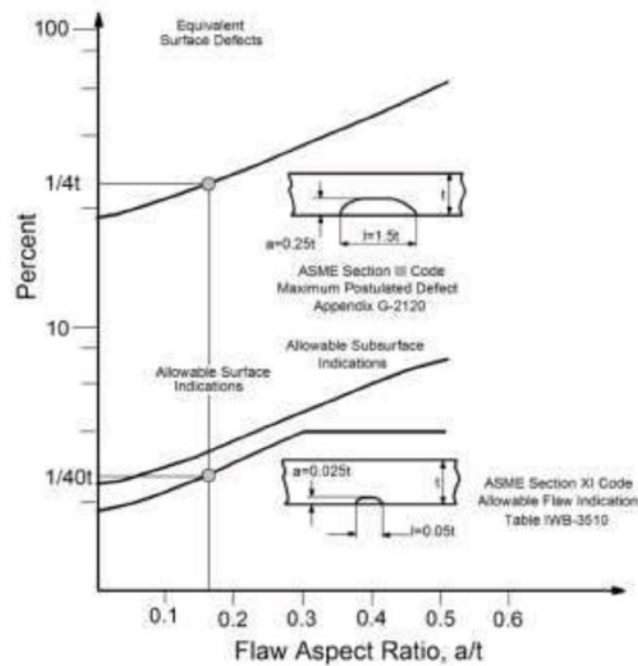

Figure 1. Maximum postulated flaw (Section III) and allowable surface flaw (Section XI) [6]
the development of fatigue and fracture mechanics theories. Risk assessment, condition monitoring and life management as new disciplines were developed (4). The “safe life” design was substituted by the concept of “damage tolerance” (5). Figure 1 shows an example of the application of damage tolerance concept in nuclear power plant construction and operation. In accordance with Figure 1, the recommendation of the ASME Boiler and Pressure Vessel Code (BPVC) Section III is a postulated surface flaw for a given wall thickness (102 to 305 mm), the depth of which should be 25% of the thickness. Actually, this was considered the largest flaw which could be missed by ultrasonic testing with the technique available at the time the code was written. Figure 1 also shows the size of the allowable flaw during in-service inspection (ISI) defined by Section XI of the ASME BPVC.